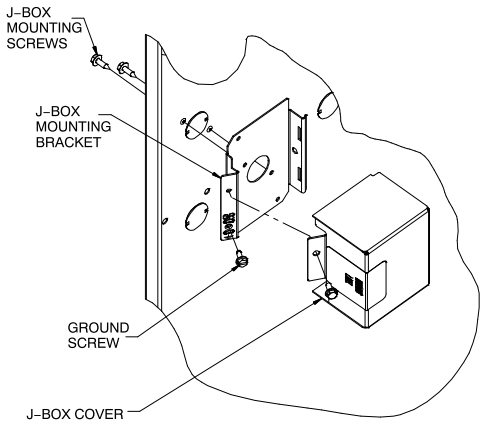

Fig. 32 - Installing J-Box (When Used)
The J-Box cover, mounting bracket and screws are shipped in the loose parts bag included with the furnace. The J-Box can be mounted on the left or right side of the casing, as viewed from the upflow position. See Fig. 32.
Align the J-Box mounting bracket against the inside of the casing and secure the mounting bracket with the screws. See Fig. 32.
6. Connect field ground wire and factory ground wire to green ground screw on J-Box mounting bracket as shown in Fig. 32.
1. Install J-Box mounting bracket to inside of furnace casing. See Fig. 32.
5. Connect field ground wire and factory ground wire to green ground screw on J-Box mounting bracket as shown in Fig. 32.
7. Attach furnace J-Box cover to mounting bracket with screws supplied in loose parts bag. Do not pinch wires between cover and bracket. See Fig. 32.
4. Connect field ground wire and factory ground wire to green ground screw on J-Box mounting bracket as shown in Fig. 32.